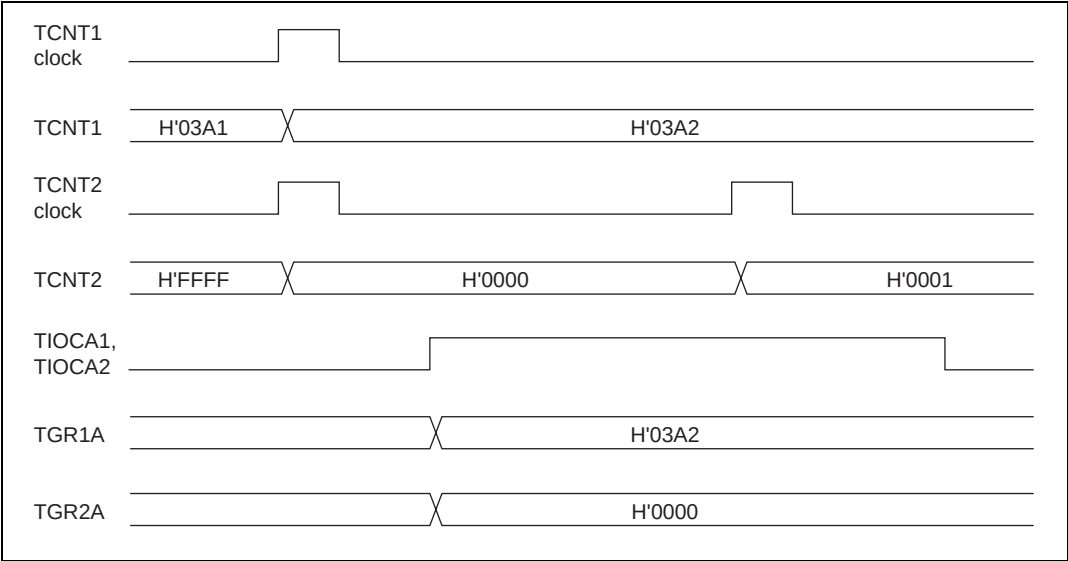

**Figure 9.22 Example of Cascaded Operation (1)**
**Examples of Cascaded Operation:** Figure 9.22 illustrates the operation when counting upon TCNT2 overflow/underflow has been set for TCNT1, TGR1A and TGR2A have been designated as input capture registers, and TIOC pin rising edge has been selected.